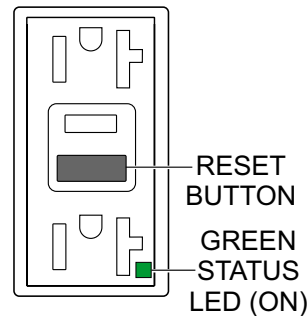

Figure 95. GFCI Receptacle (ON/Restore)
5. Press the **RESET** button (Figure 95) to restore power to the GFCI receptacle and verify that the status LED is **ON (GREEN)**.